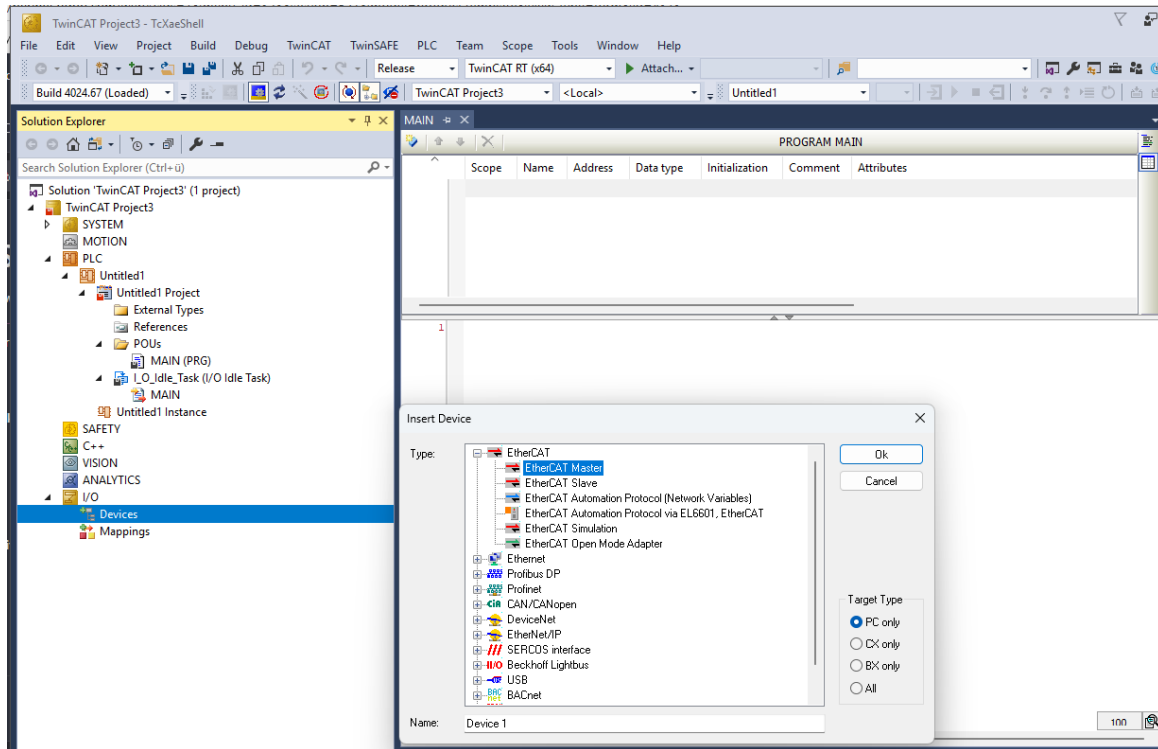

Figure 11: Insert Device as EtherCAT Master
9. Now, the EtherCAT Master device should be added under I/O Devices section. Right-click on the Devices and select Insert Device and add the EtherCAT Master as seen in Figure 11